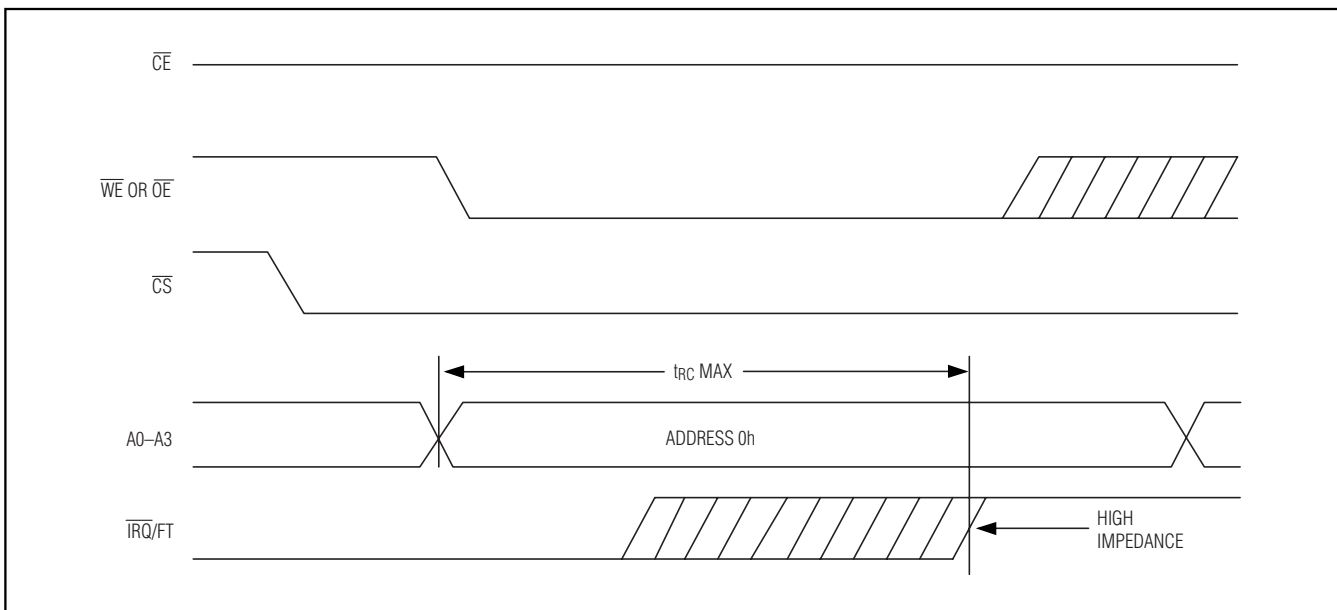
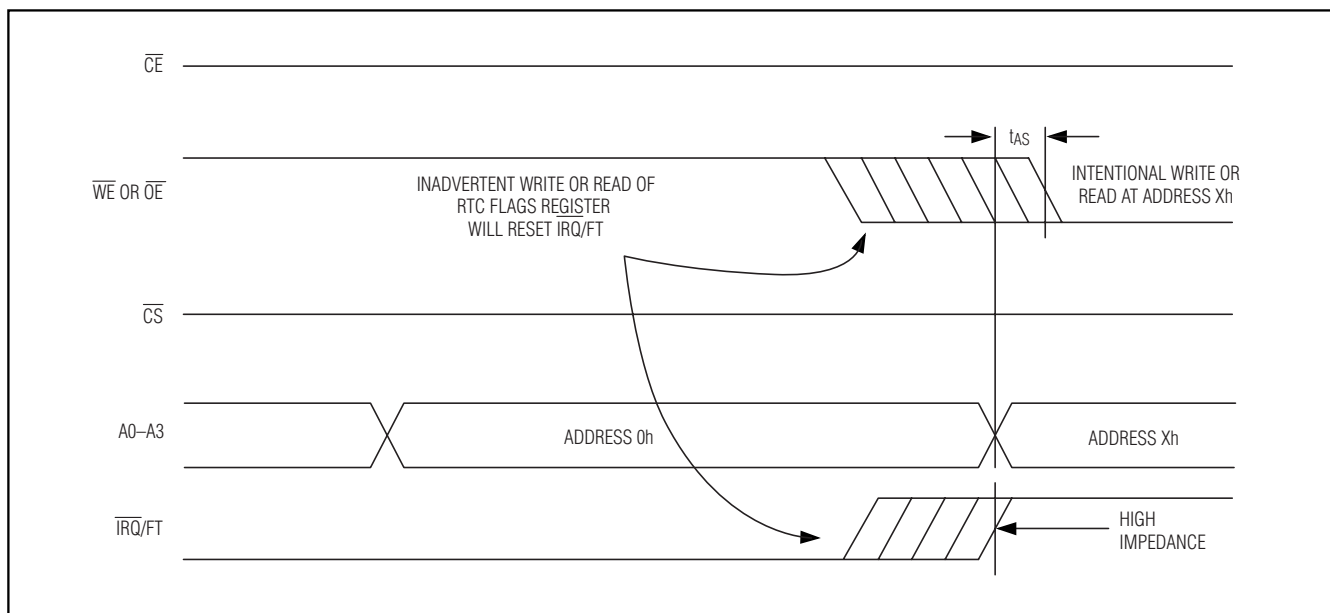

Figure 1. Clearing Active IRQ Waveforms
Figure 2. Prevent Accidental Clearing of IRQ Waveforms
When the RTC register values match alarm register settings, the alarm flag (AF) is set to a 1. If AE is also a 1, the alarm condition activates the $\overline{\text{IRQ/FT}}$ output. When $\overline{\text{CS}}$ is active, the $\overline{\text{IRQ/FT}}$ signal can be cleared by holding the $\overline{\text{FLAGS}}$ register address stable for t_{RC} and forcing either $\overline{\text{OE}}$ or $\overline{\text{WE}}$ active (see Figure 1). The flag does not change state until the end of the read/write cycle and after the $\overline{\text{IRQ/FT}}$ signal has deasserted. To avoid inadvertently clearing the $\overline{\text{IRQ/FT}}$ signal while preparing for subsequent write/read cycles at other register addresses, assure that t_{AW} is met for that subsequent address (see Figure 2).